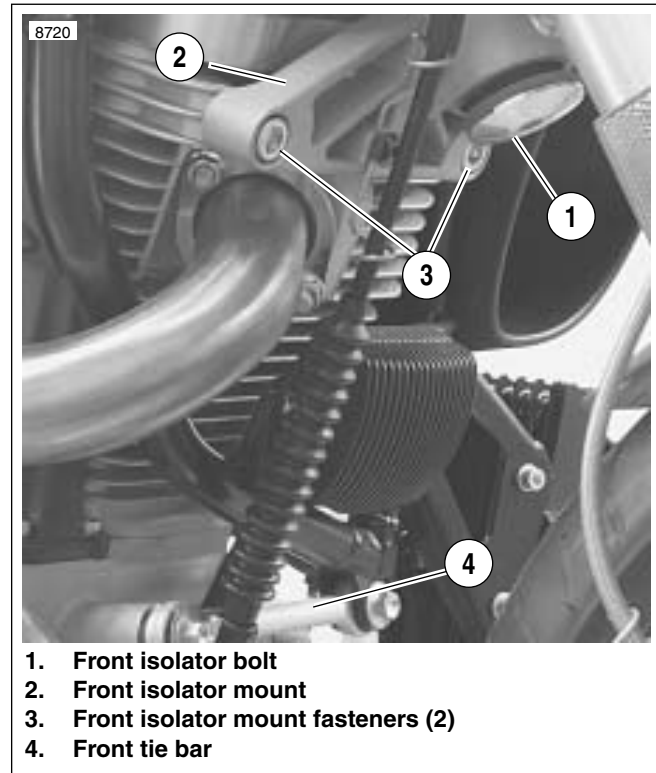

Figure 3-10. Front Isolator and Tie Bar Assemblies
2. See Figure 3-10. Insert front isolator bolt (1) through front isolator (2) and loosely thread into frame. Do not tighten at this point.
3. Install isolator mounting fasteners (3) and tighten to 49-51 ft-lbs (66-69 Nm).
- b. Figure 3-10. Install front tie-bar to engine and tighten to 25-27 ft-lbs (33.9-36.6 Nm).